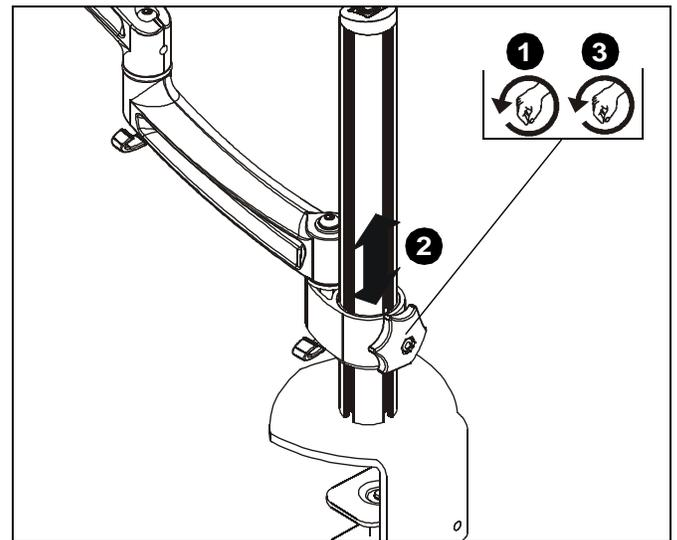

Figure 8
1. Loosen column adjustment knob. (See Figure 8)
2. Adjust height to desired level. (See Figure 8)
3. Tighten column adjustment knob. (See Figure 8)